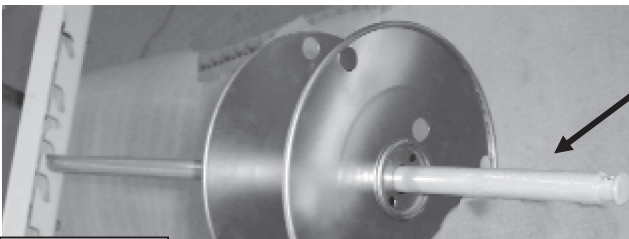

Figure 17
6. While loading the spool rod into machine be careful to load both ends at the same time. IF SPOOL ROD IS LEFT TO DANGLE FROM ONE END THE SLOT MAY BE DAMAGED RESULTING IN AN UNSAFE CONDITION. See Figure 17